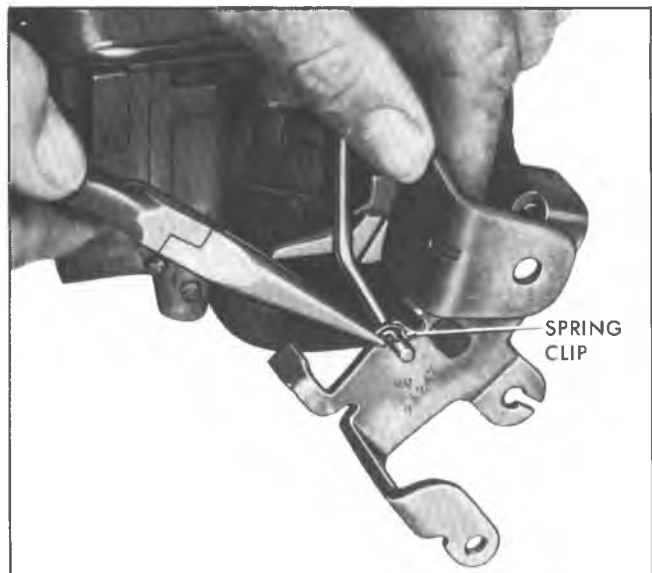

Fig. 2C-Removing Pump Rod Spring Clip
2. Disconnect lower end of pump rod from throttle lever by removing spring clip (Fig. 2C).